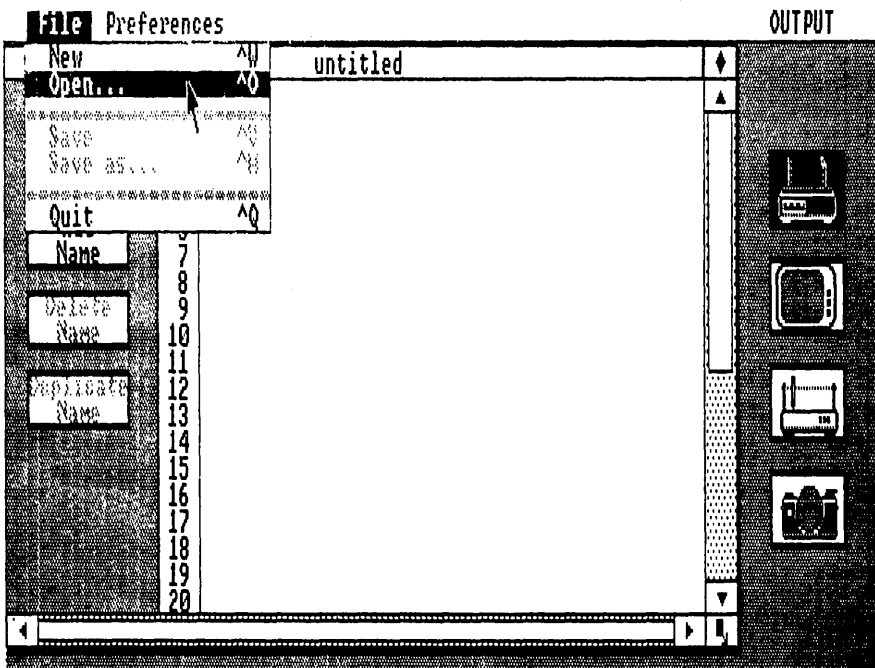

Fig. A-10. The OUTPUT File Menu.
1. Removal of the Edit Menu (Fig. A-10).